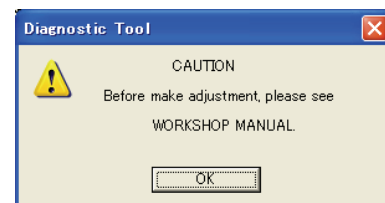

Fig. 9-4-1
- (1) Select this command on the menu bar, and the message dialog box (Fig. 9-4-1) appears.
- (2) Press the [OK] button on the message (Fig. 9-4-1), the CO adjustment dialog box will appear and show the current settings.